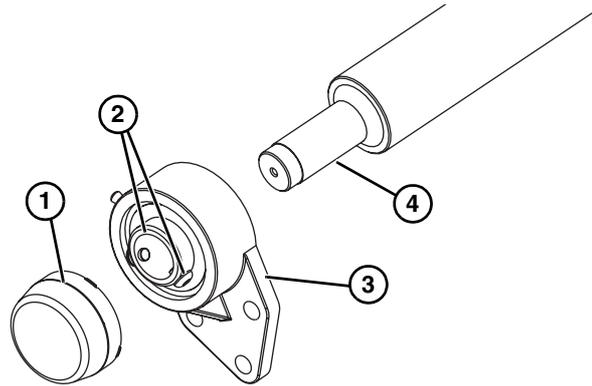

Figure 96
2. Remove the bearing cover (Figure 96, item 1).
3. Use a hex wrench to loosen the bearing shaft assembly fasteners (Figure 96, item 2).
4. Slide the bearing flange assembly (Figure 96, item 3), off the spindle shaft end (Figure 96, item 4).